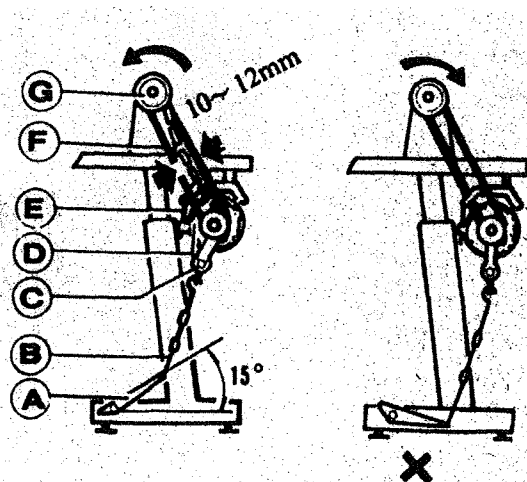

Fig. 5
6) Connecting the clutch lever to the pedal (Fig. 5)